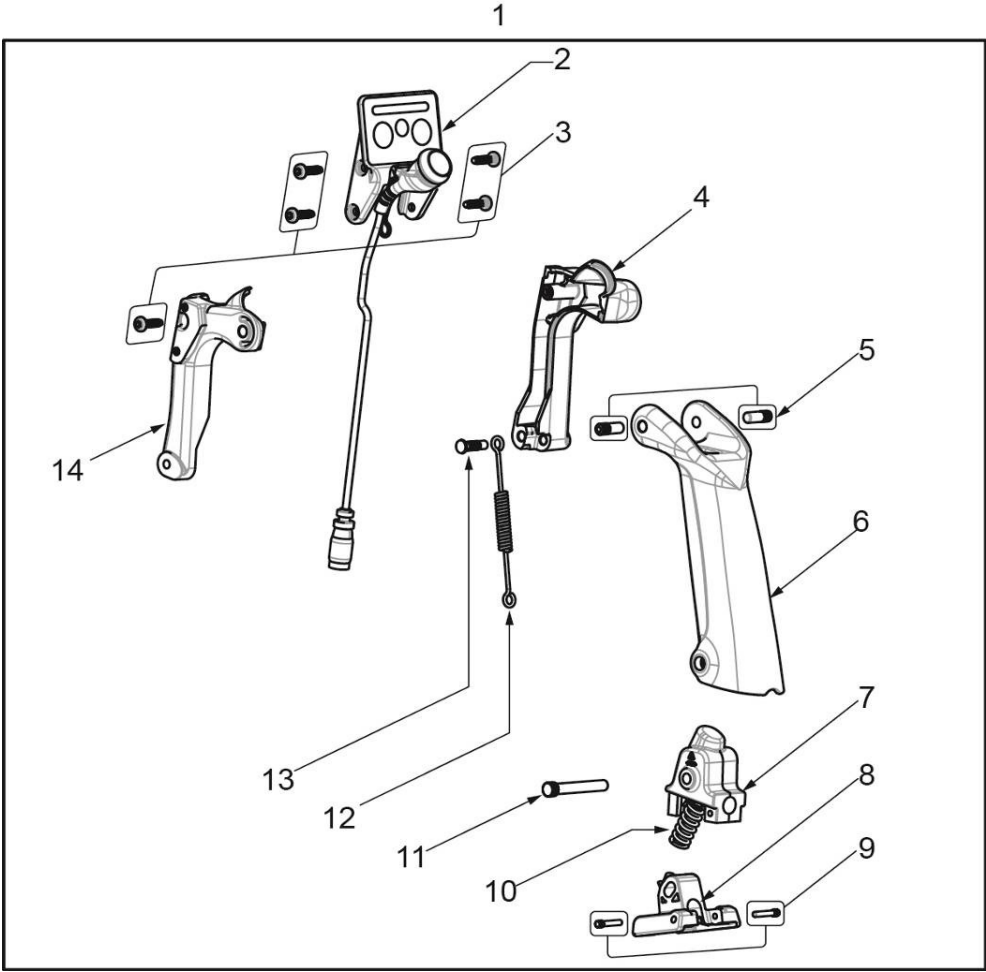

Figure 79: Handle Parts
- a. The Handle kit 3004-0050 is a line replaceable unit and Figure 79 illustrates the major parts of the handle.